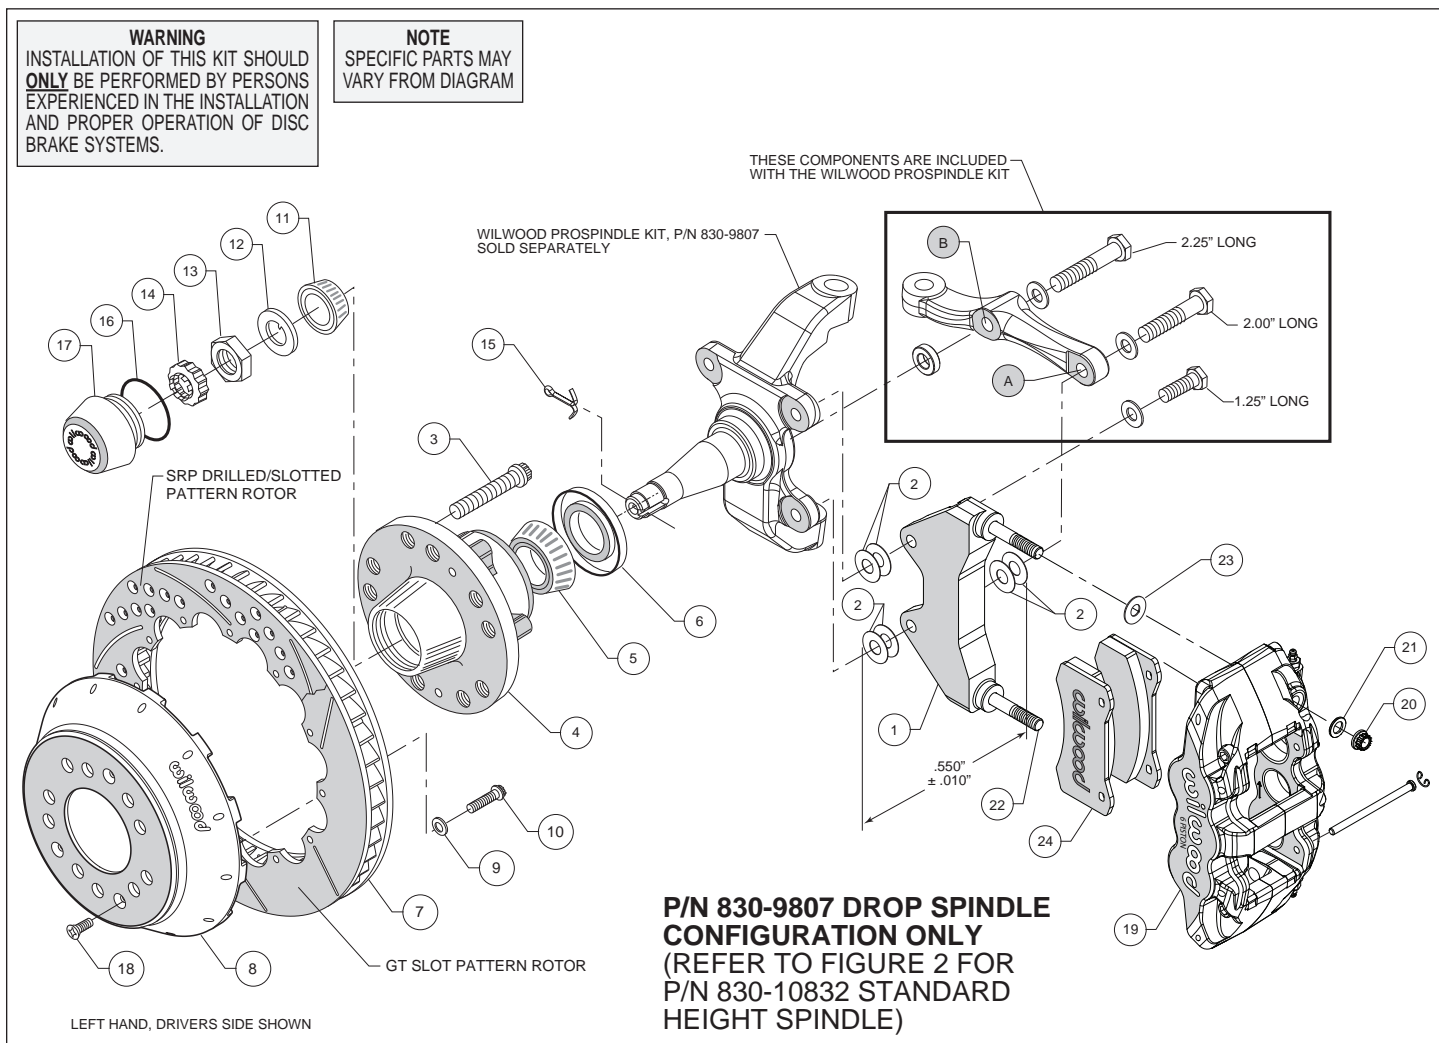
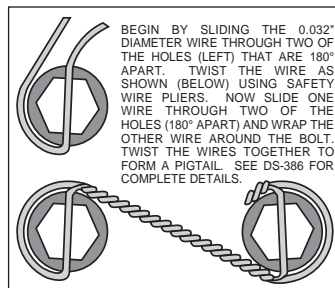

Figure 1. Installation Configuration For Drop Spindle, P/N 830-9807
Figure 4. Safety Wire Diagram
Assembly Instructions (numbers in parenthesis refer to the parts list and Figures 1 and 2 on the preceding pages):
- NOTE:** Each Wilwood ProSpindle kit includes bolts, washers, and a spacer to mount the steering arm and caliper bracket. The various bolts are identified by length in the following instructions and in Figures 1 and 2.
- Orient the bracket as shown in Figure 1 and Photo 1. Install at top spindle hole using 1.25" long bolt and .06" thick washer (from ProSpindle kit), and two .016" thick shims (2) between the bracket and spindle, Figure 1.
- Orient the steering arm, and identify the hole marked 'A', as shown in Figure 1. Install at bottom spindle hole using 2.00" long bolt, .06" thick washer (from ProSpindle kit), two .016" thick shims (2) between the steering arm and the bracket, and another two .016" thick shims (2) between the bracket and spindle, Figure 1. The bracket is located between the steering arm and spindle. **NOTE:** The bracket and shim washers must add up to a total thickness of .550" ± .010", Figure 1.
- Finish attaching the steering arm through the hole marked 'B', as shown in Figure 1. Install using 2.25" long bolt, .06" thick washer, and .25" thick spacer (all from ProSpindle kit), Figure 1.
- Pack the small outer bearing cone (11) with high temperature disc brake bearing grease and install into front of hub (4). Slide the hub assembly onto the spindle. Secure using spindle washer (12) and adjusting nut (13), Photo 5. Bearing adjustment: Tighten the nut while turning the hub. When there is a slight bind on the bearings, they are seated correctly. Back the nut off about 1/6 to 1/4 of a turn, or sufficiently to allow .001" to .007" end play. **WARNING:** Failure to back off adjusting nut could cause bearing to run hot and be damaged, which could cause the wheel to lock or come off. Install spindle nut retainer (14) and cotter pin (15).
- Screw dust cap (17) into hub (4). Friction created by the o-ring (16) on the dust cap keeps it from unscrewing.
- Orient the rotor (7) and the hat (8) as shown in Figures 1 or 2, and Photo 6. Attach rotor to hat using bolts (10) and washers (9). Using an alternating sequence, apply red *Loctite*® 271 to the threads, and torque to 155 **in-lbs**. For an added measure of security, the bolts may be safety wired using standard 0.032 inch diameter stainless steel safety wire as shown in Figure 4. Refer to Wilwood's data sheet DS-386 (available at www.wilwood.com/Pdf/DataSheets/ds386.pdf) for complete safety wire installation instructions.
- Slide the hat/rotor assembly (8 and 7) onto the hub (4) taking care to align the small countersunk holes in the hat with the small threaded holes in the hub. **NOTE:** The hat must fit flush against the hub face or excessive rotor run out may result. Install three flat head screws (18) through the small holes in the hat (8), and torque to 85 **in-lb**.
- NOTE:** This kit contains distinct right and left hand calipers that must be mounted in a specific direction, as described below. Lubricate the caliper mounting studs (22) with lightweight oil. Initially place one .030" thick shim (23) on each stud as shown in Figure 1 or 2, and Photo 7. Mount the caliper (19) onto the bracket (1) using lock nuts (20) and washers (21), Figure 1 or 2. Ensure that the caliper is mounted so the largest pistons are at the rotor exit end of the caliper, in relation to the direction of rotor rotation. Temporarily tighten the lock nuts. View the rotor through the top opening of the caliper. The rotor should be centered in the caliper, Photo 8. If not, proceed as follows:
- For the lower bracket mount bolt, if a shim was added between the bracket and spindle, then a shim must be removed between the steering arm and bracket, such that the total thickness of bracket and shims remain equal to $.550 \pm .010$ ", Figure 1.
- Adjust by adding or subtracting shims (2) between the bracket and the spindle. Always use the same amount of shims on each of the two mounting bolts.
- Remove the caliper (19), then remove the two pad retaining pins by carefully popping out the pin retaining clips and sliding out the pins. Insert the brake pads (24) into the caliper from the bottom, Figure 1 or 2, and Photo 9. With the friction material facing the rotor, secure the brake pads in place with the pad retaining pins and clips, Photo 10. Reinstall the caliper onto the caliper mounting bracket and temporarily tighten the lock nuts. Check that the top of the brake pad is flush with the outside diameter of the rotor, Photo 11. If not, adjust by adding or subtracting shims (23) between the caliper and the bracket. After the caliper pad height is set, torque the caliper lock nuts (20) to 47 ft-lb.